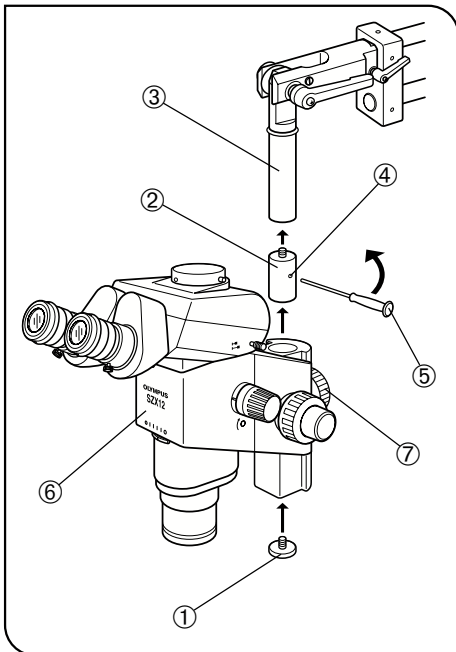

Fig. 14
**1** Installing an Applicable Microscope Body (Fig. 14)
1. Remove the microscope body drop prevention screw ① and screw the SZX extension adapter ② into the mount shaft ③.
2. Insert the Allen screwdriver ⑤, provided with the SZX microscope body, into the hole ④ on the center of the extension adapter ② and rotate the screwdriver in the direction of the arrow to clamp the extension adapter firmly.
3. Mount the SZX microscope body ⑥ and tighten the focusing assembly clamping knob ⑦.
4. Screw in the microscope body drop prevention screw ① tightly using a coin.